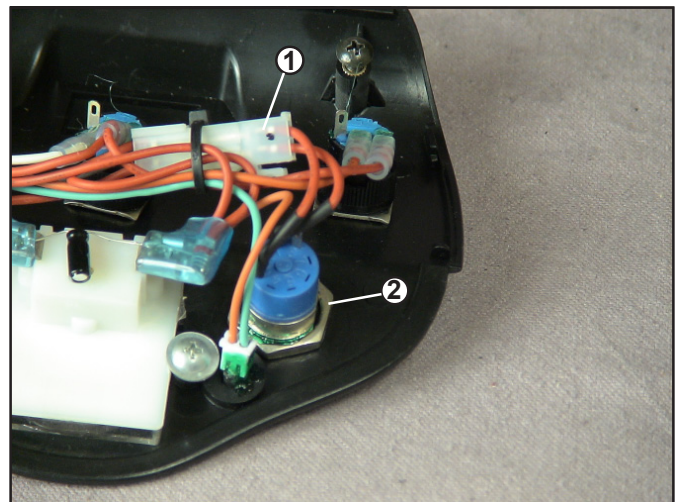

Figure 25. Key Switch
3. Remove the eight (8) screws that fasten the back tiller shroud to the tiller.
5. Disconnect the key switch from the control panel harness (**See #1 on figure 25.**)
6. Remove the nut that fastens the key switch to the control panel. (**See #2 on figure 25.**)